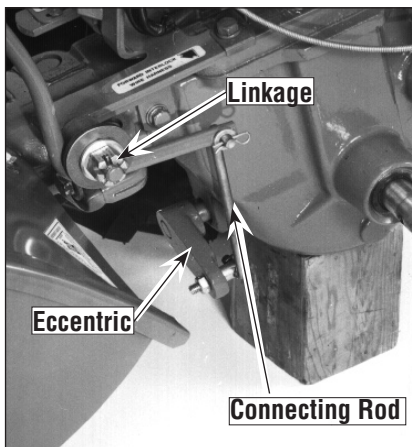

Figure 5-43: Check connecting rod, shifting linkage and eccentric lever.
Lubricate eccentric lever at rear of power unit transmission (Figure 5-43). If rust is present, use penetrating oil and work eccentric lever back and forth by hand.
- Lubricate linkage to Wheel Speed Lever to eccentric lever (Figure 5-43).
- Connecting rod at end of lever might be backwards, or bent in toward transmission housing and hitting it. Other shifting linkage might be bent. Straighten or replace linkage (Figure 5-43).
- Eccentric shifting pin inside transmission may be broken (rare) or worn. Disconnect linkage from eccentric lever and try moving eccentric lever by hand (Figure 5-43). If lever moves easily, contact the Technical Service Department.